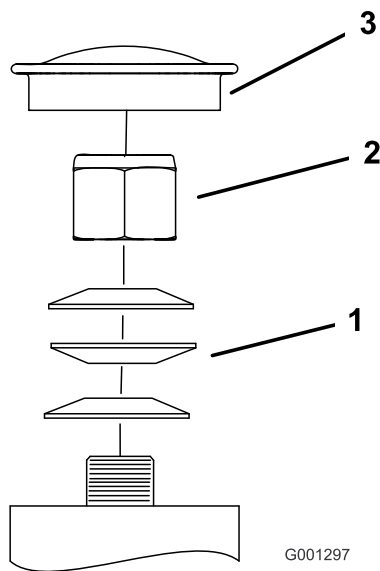

Figure 67
3. Remove the dust cap from caster and tighten lock nut (Figure 67).
4. Tighten the locknut until the spring washers are flat and then back off a 1/4 turn to properly set the pre-load on the bearings (Figure 67).
Important: Make sure the spring washers are installed correctly as shown in Figure 67.
5. Install the dust cap (Figure 67).